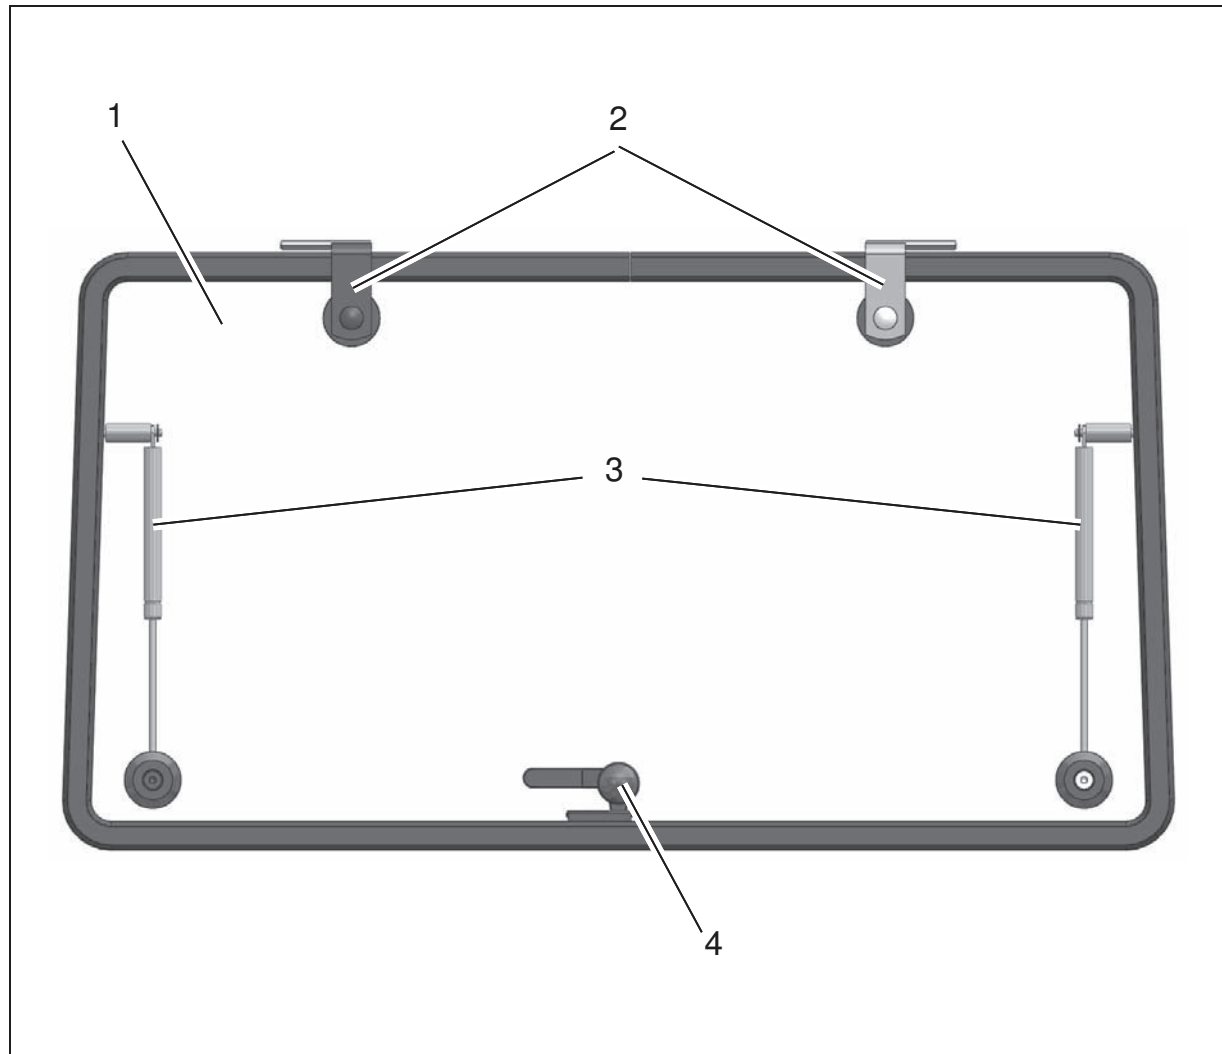

Fig. 8
1. Hang the rear window (Fig. 8/1) at the top of the cab safety roof using hinges (Fig. 8/2) and then position, align and fix in place using the M8 x 35 screws, sealing shims, washers and M8 nuts.
2. Assemble the gas springs (Fig. 8/3) (pistons pointing downwards) on the left and right.
3. Assemble the locking mechanism (Fig. 8/4).